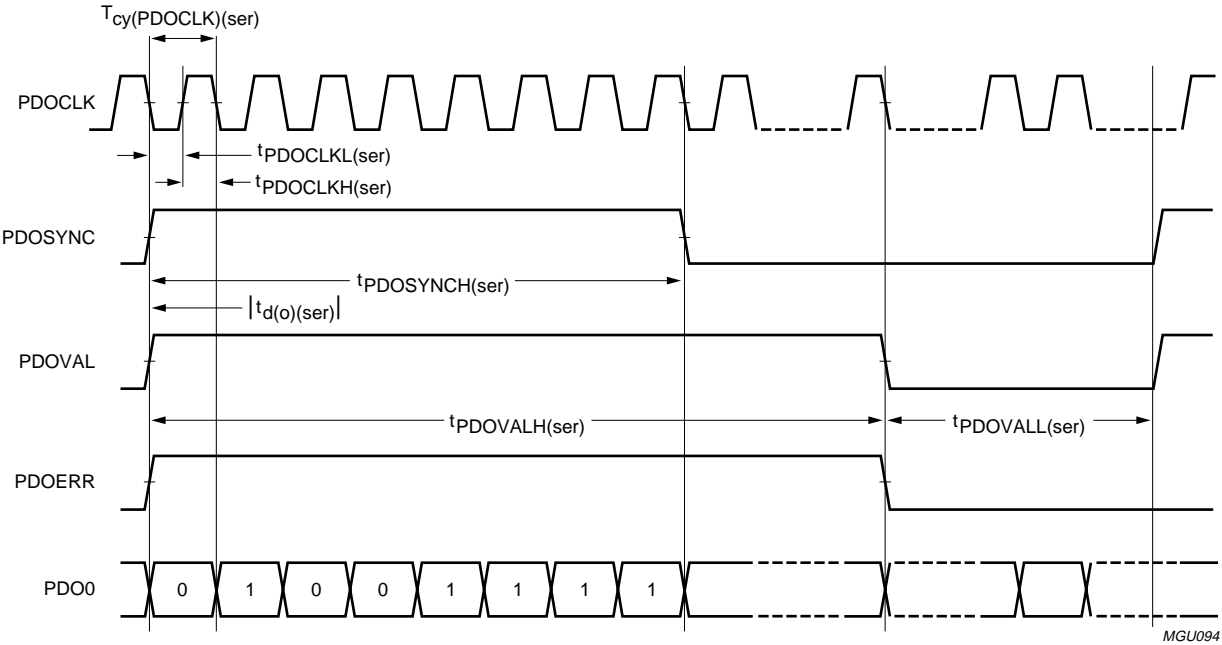

Fig.13 Transport stream interface timing (serial output format).
5. See the timing measurement conditions in Fig.13.